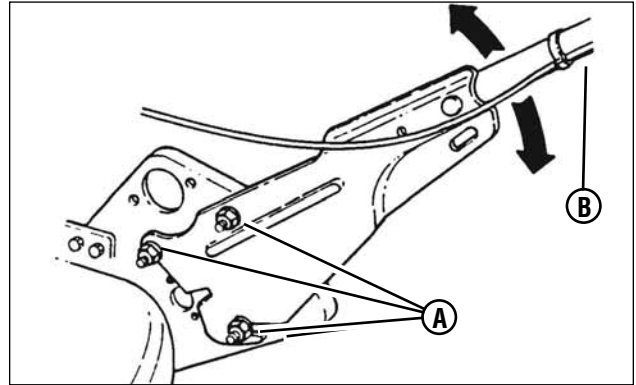

Figure 6: Adjusting the handle height
1. Loosen the lower nuts (**A, Figure 6**) on each lower handle.